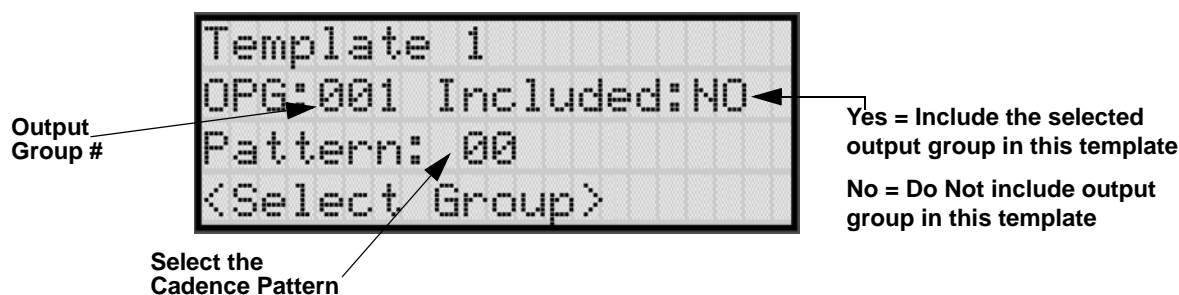

Figure 7-10 Output Group Template Programming Screen
5. Select output group number. See Figure 7-10.